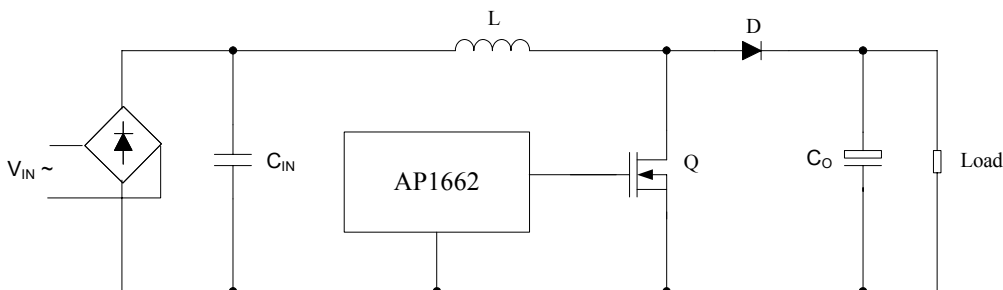

Figure 8. Boost Converter Circuit
The most popular power factor correction topology is the Boost circuit. The boost converter consists of a boost inductor (L), a controlled power switch (Q), a diode (D), an output capacitor (C_O) and a control circuit (see Figure 8).